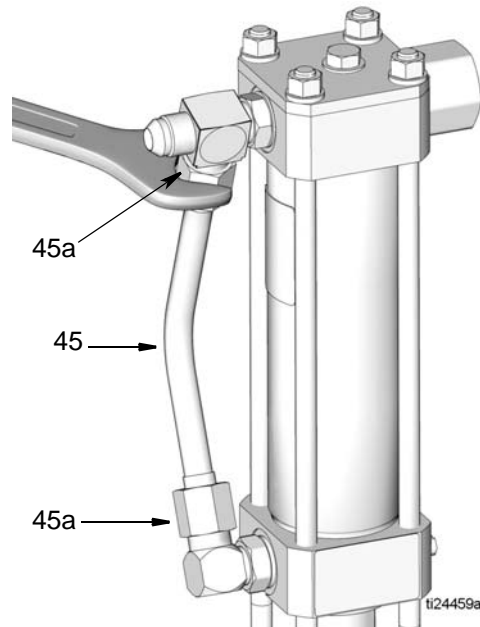

FIG. 9
- Loosen nut (45a) on both ends of fluid tube (45) (FIG. 9).